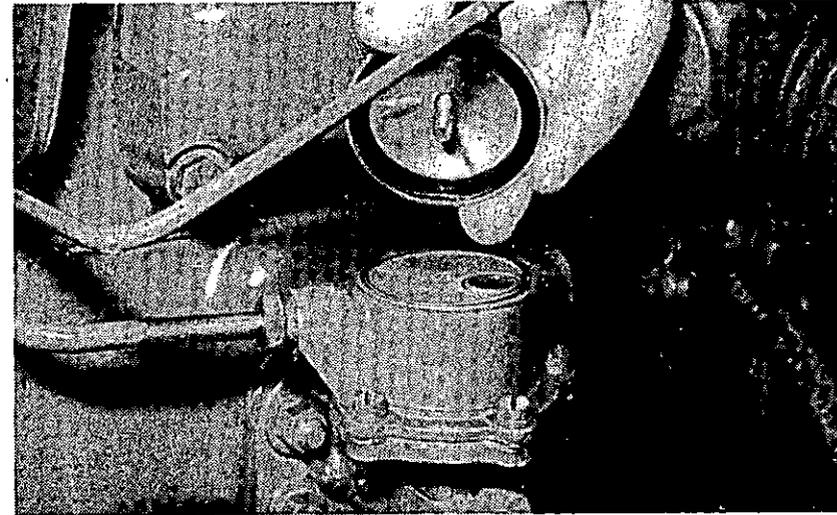

Fig. 16 Fuel lift pump cover removal
- 1 Remove the cover and joint (see fig. 16) from the top of the fuel lift pump and remove the gauze strainer.